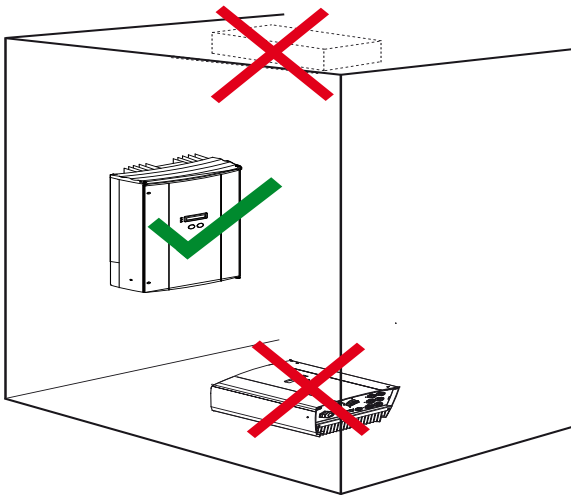

Figure 9: Instructions for wall mounting
7. Secure the inverter with a second person and with both hands on the housing side and base plate, and move to the mounting location. (See Figure 9 on page 17)